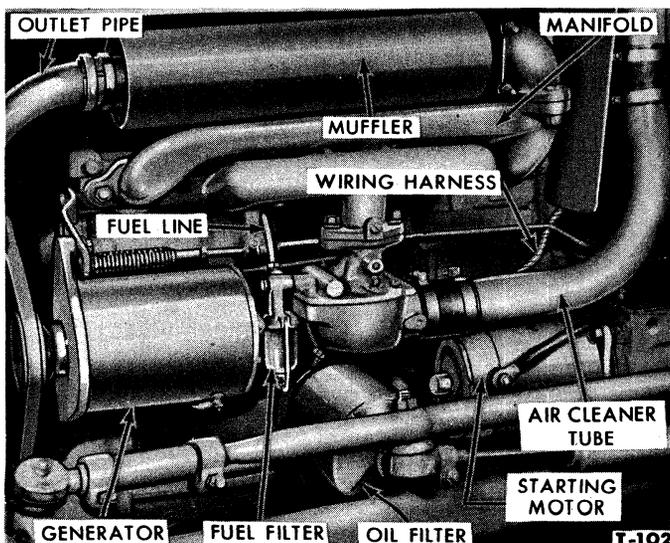

Figure 3—Left Side of Engine
Gasoline Engine: Turn the fuel tank shut-off valve clockwise as far as possible to close it. Disconnect the fuel line at the fuel filter, see Figure 3. Remove the bolts that attach the fuel tank support brackets to the cylinder block. Remove the one nut that attaches the fuel tank front support bracket to the cylinder block. With an assistant, carefully lift the fuel tank and brackets from the tractor.
Gasoline Engine: Turn the fuel tank shut-off valve clockwise as far as possible to close it. Disconnect the fuel line at the fuel filter, see Figure 3. Remove the bolts that attach the fuel tank support bracket to the cylinder block. Remove the one nut that attaches the fuel tank front support bracket to the cylinder block. With an assistant, carefully lift the fuel tank and support brackets from the tractor.
3. Secure the engine to the transmission with two bolts at each side of the housing. Install the muffler and outlet pipe in place on the manifold, see Figure 3.
7. Position the wiring harness, see Figure 3, in the attaching clips on the cylinder block and connect the three wires to the generator.